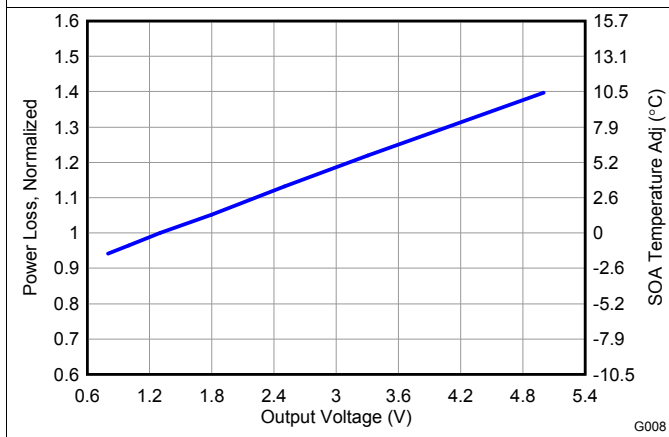

Figure 8. Normalized Power Loss vs Output Voltage
- Normalized Power Loss for output voltage ≈ 0.98 (Figure 8)
- SOA adjustment for output voltage ≈ -0.29°C (Figure 8)